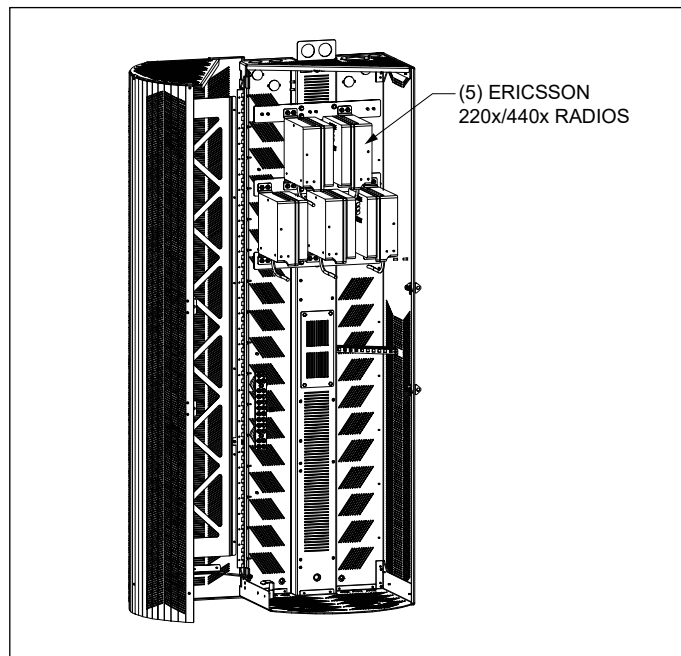

Figure 14 SH60-702018xNE1 with Equipment Installed
See Figure 14 for a view of the SH60-702018xNE3 with all customer equipment installed.
3. Mount the power supply/mounting bracket assembly onto the SHRD60 rear spine using hardware saved previously (Figure 14).